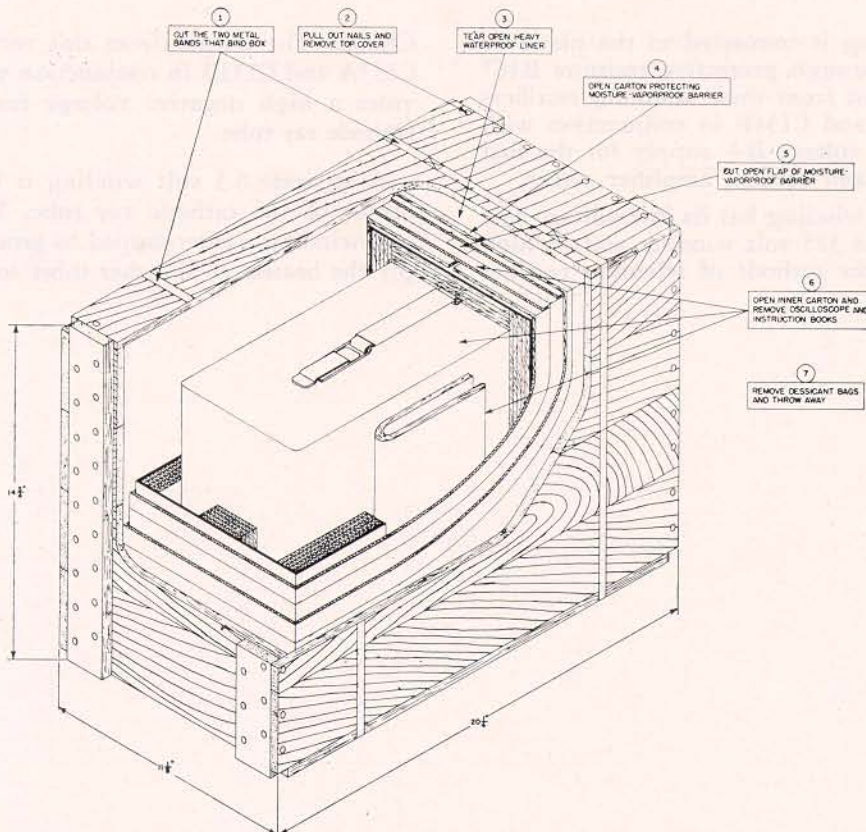

Figure 3-2. Cutaway View of Export Packaging
*b. UNPACKING.*—As shipped, each equipment is packed in a substantial wooden case which is sufficiently sturdy and affords sufficient protection to the equipment to permit it to remain exposed to the weather for an indefinite time. When opening the packing case and removing the equipment (See Figure 3-2), care should be taken not to dent or otherwise damage the metal housing of the equipment in order to preserve its water-tightness.